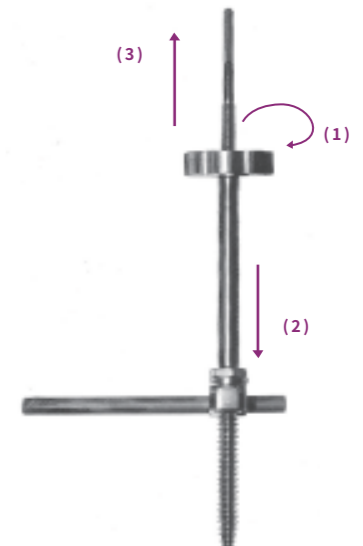

Fig. 2a
- The lifting nut is placed in the hexagonal mouth of the lifting sleeve, and then the nut is turned clockwise to realize the upward movement of the SCHANZ pedicle screw with respect to the sleeve chuck and rod, and at the same time, the sliding vertebral body is driven upward to realize the lifting (Fig. 2a).
- (1) Turn the lifting nut clockwise.
- (2) The sleeve chuck and rod are pressed downward.
- (3) SCHANZ pedicle screw drive slippage vertebral body lift up.